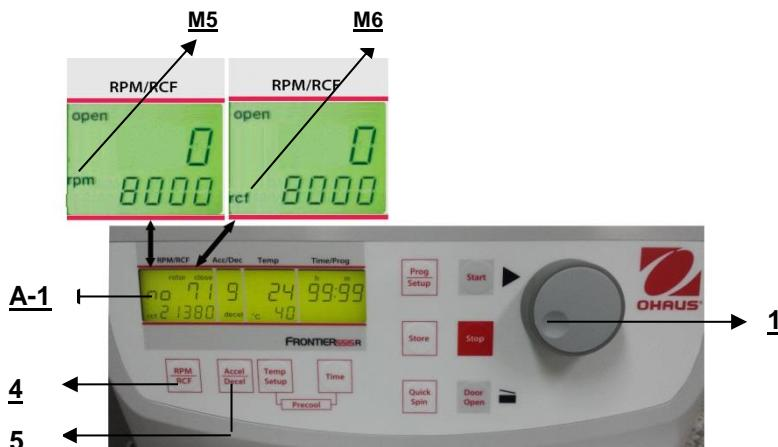

Figure. 16
This pre-selection is activated through the key "**RPM | RCF**" (4) (refer to figure 16 below). By pressing the key once the word "rpm" (M5) flashes. By pressing the key twice the pre-selection of the centrifugal forces can be selected. Then the flashing word "rcf" (M6) appears. You can set the